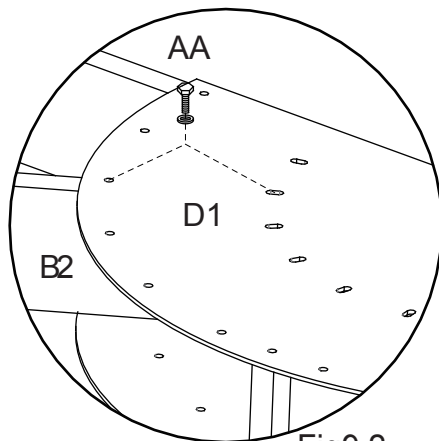

Fig9.2
9.2. Connect the Upper Beam (B2) and the Center Connector (D1) with bolts (AA), and connect the
Upper Beam (B1) and the Arched Beam (I1/I2/J1/J2/R) with bolts (AA). See Fig 9.2- 9.3.